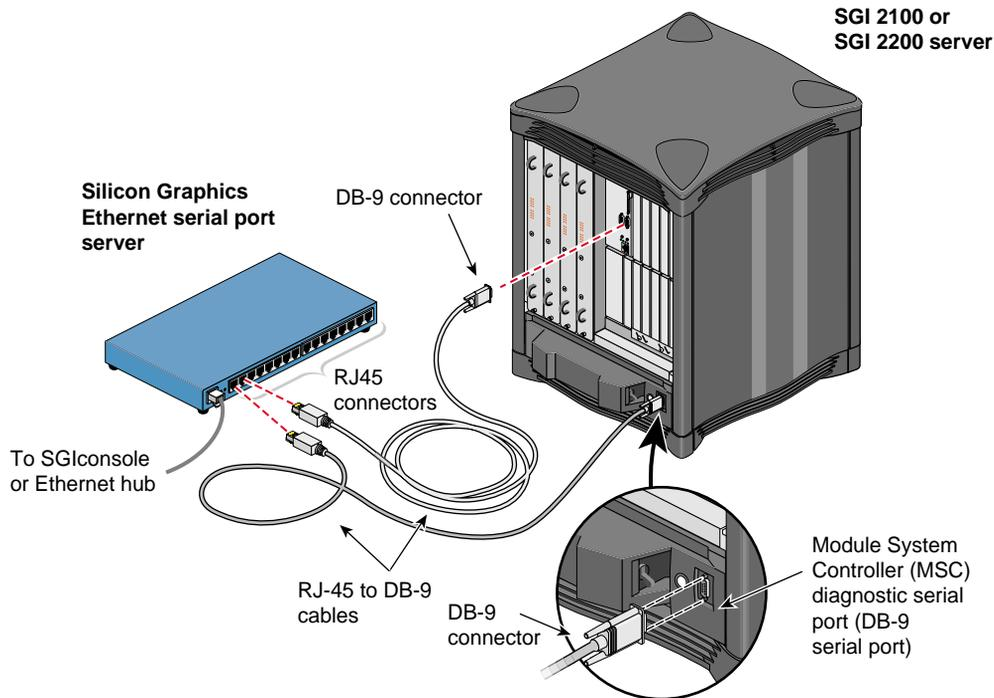

Figure 5-17 Connecting the SGI 2100 or SGI 2200 Server MSC Serial Port to the Serial Port Server
7. Connect the RJ-45 end of the second RJ-45 to DB-9 cable to one of the RJ-45 serial jacks on the Silicon Graphics EL-16 serial port server. Connect the DB-9 connector to the DB-9 jack on the SGI 2100 or SGI 2200 server Module System Controller (MSC) diagnostic serial port. See Figure 5-17.